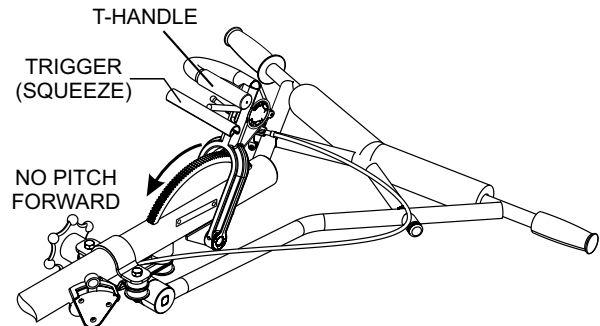

Figure 11. Blade Pitch T-Handle (Quick Pitch™ Handle)
- For **Quick Pitch™ Handle** models expose the pitch cable to maximum by grasping the T-handle (Figure 11), then squeezing the trigger lock and pushing the T-handle forward for no pitch (blades flat).